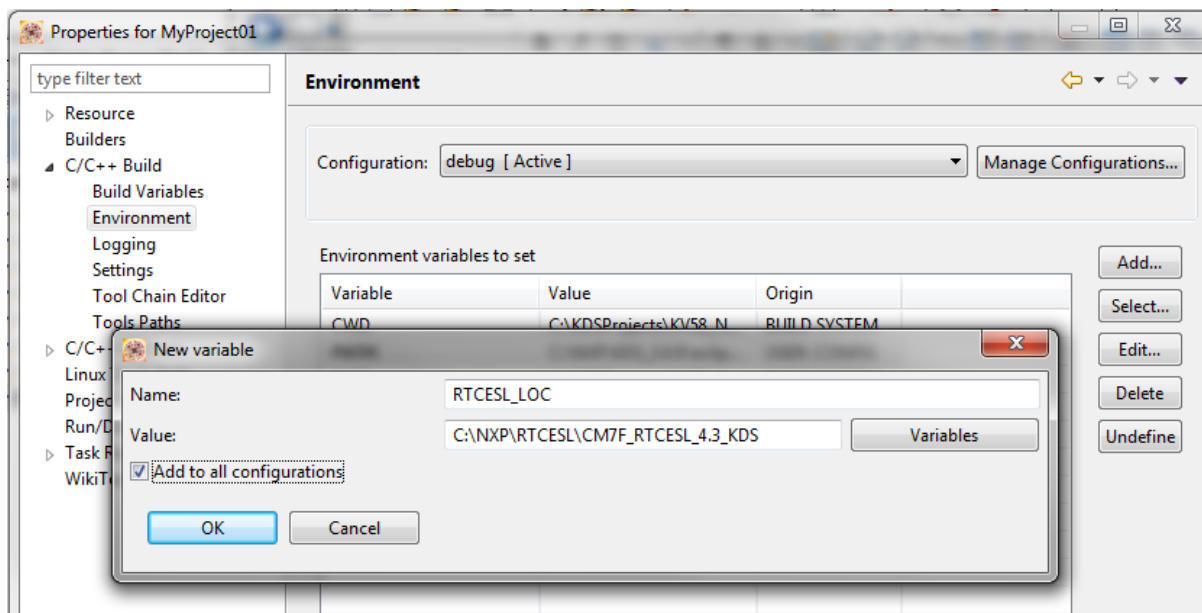

Figure 1-7. Environment variable
8. In the dialog that appears (see Figure 1-7), type this variable name into the Name box: RTCESL_LOC.
10. Tick the Add to all configurations box to use this variable in all configurations. See Figure 1-7.